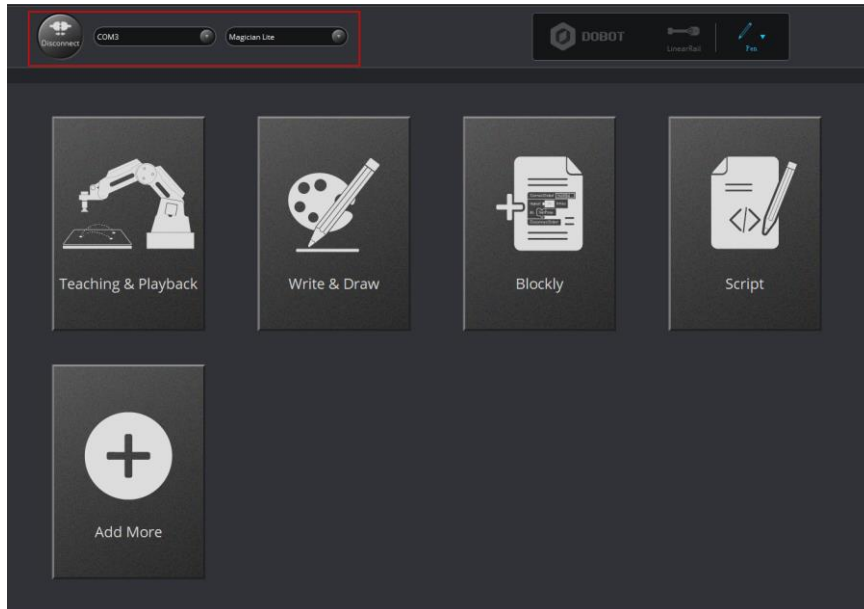

Figure 5.37 Connect Magician Lite
**Step 1** Launch the DobotStudio, and select device type and COM port (take Magician Lite as an example), and then click **Connect**, as shown in Figure 5.37